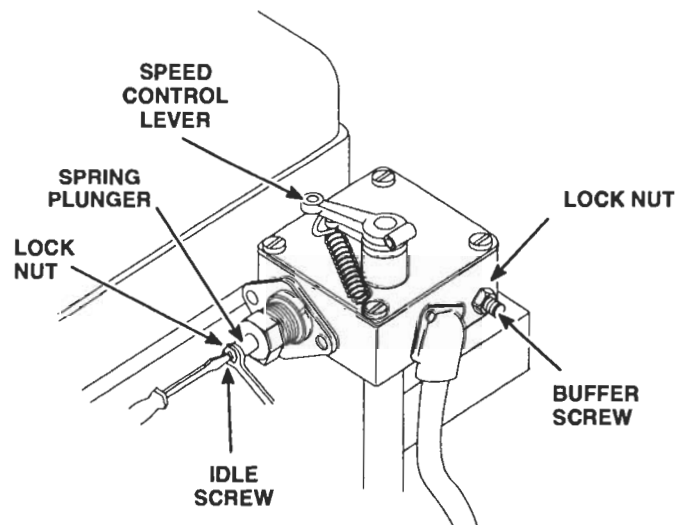

Figure 9. Adjusting Engine Idle Speed
2. With the engine running at normal operating temperature and with the buffer screw (Figure 9.) backed out to avoid contact with the differential lever, turn the idle speed adjusting screw until the engine is operating at approximately 15 r/min below the recommended idle speed. EPA certified minimum idle speeds are 500 r/min for trucks and highway coaches and 400 r/min for city coaches.